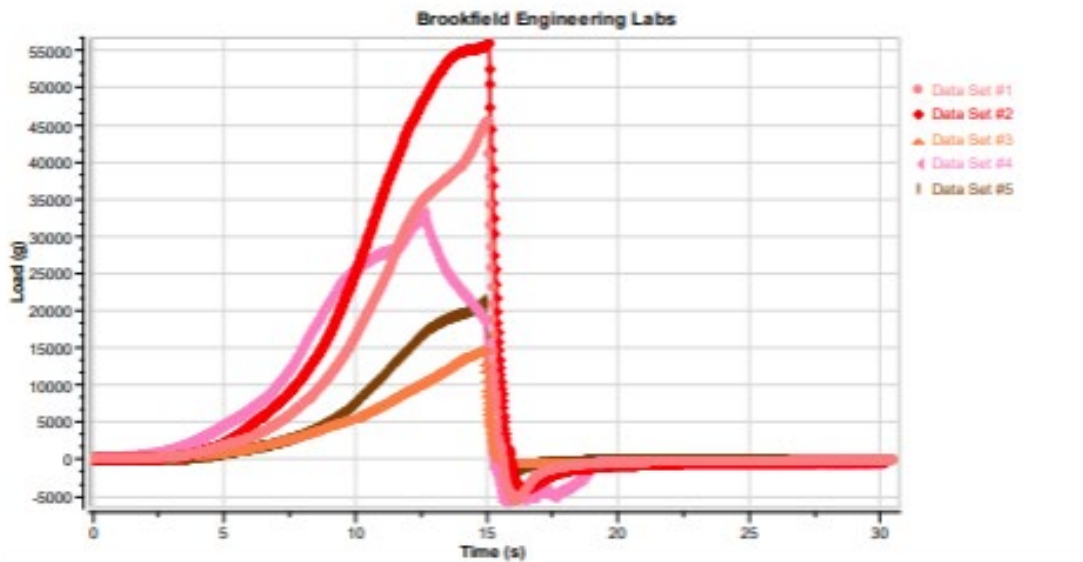

Figure 1: The load/time graph for the hardness/firmness of meat using the five-bladed Kramer Shear Cell with 30 g meat samples.
- Load vs. Time Graph (Fig. 1): Measures sample hardness/firmness.
- Maximum force indicates sample firmness; higher values = firmer meat (Fig. 1).